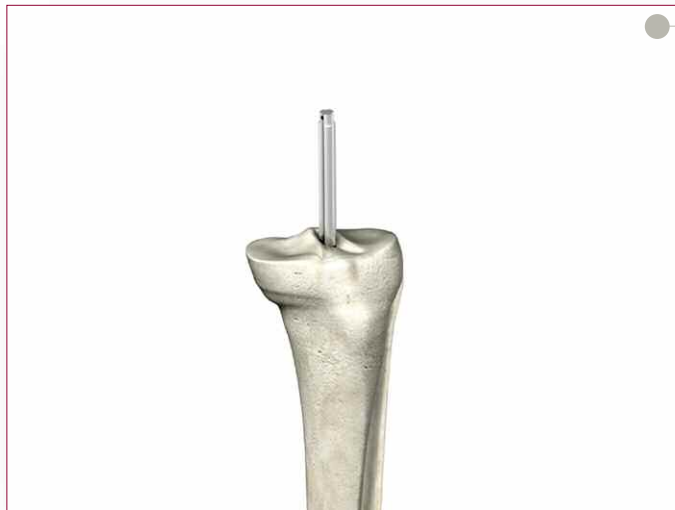

Figure 58
- The proximal portion of both the 1/4" and 3/8" diameter IM Rods changes to 5/16" in diameter. It is necessary to insert those rods so that the diameter transition point is within the intramedullary canal. The 5/16" diameter IM Rod may be inserted to any depth up to the scribe mark on the proximal shaft. Once the IM Rod is positioned, remove the T-Handle (**Figure 58**).